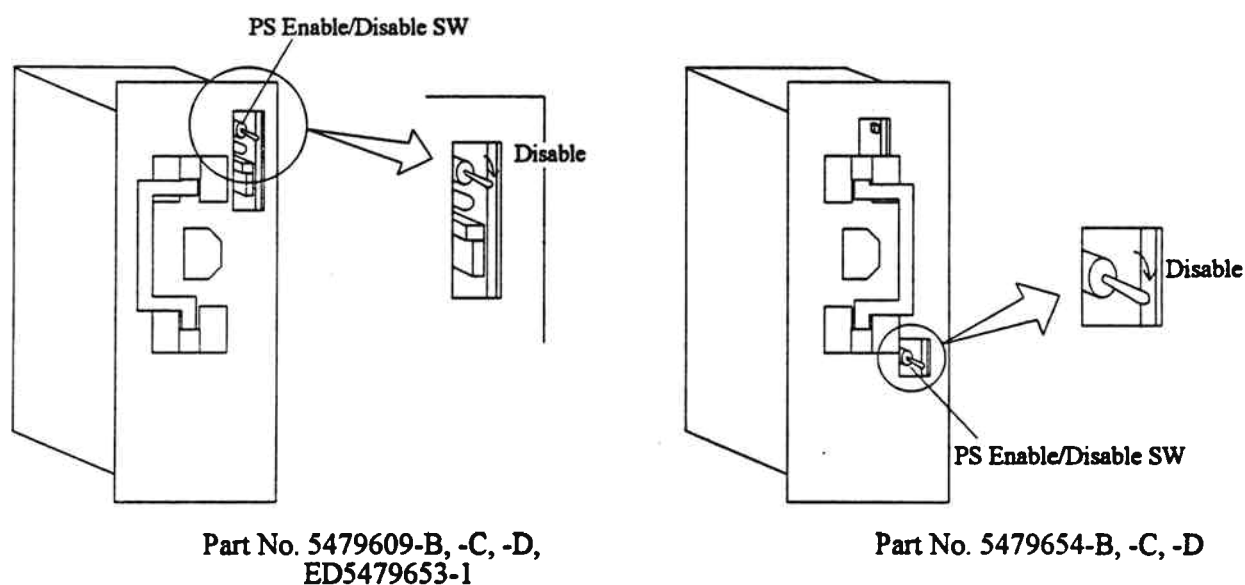

Fig. 3.3.8.3.2-1 Switch
- a. Confirm the PS Enable/Disable Switch is turned to (DOWN) Disable. Refer to Fig. 3.3.8.3.2-1.
- Loosen the four screws① and remove the two supports. Refer to Fig. 3.3.8.3.2-3.
- Loosen the screws② and remove the dummy plates from the inserting locations. Refer to Table 3.3.8.3.2-1, Fig. 3.3.8.3.2-2, and Fig. 3.3.8.3.2-3.